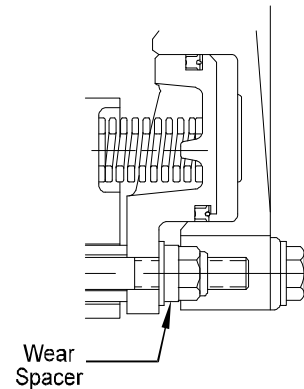

Fig. 7
- 4.2.1.9 Lubricate the threads on the ends of the studs with 30 wt. oil or anti-seizing compound and install the locknuts (18), washers (17) and the wear spacers removed in 4.2.1.5. The wear spacers are "stored" under the locknuts for use after replacing friction discs. See Figure 7.